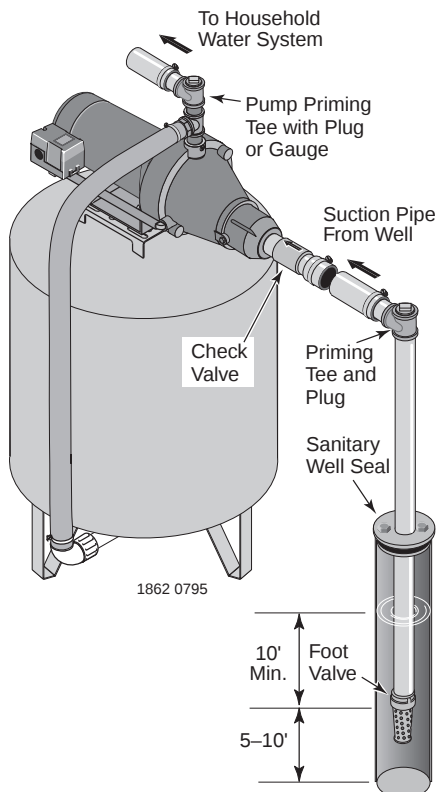

Figure 2: Cased Well Installation
Cased Well Installation, 2" or Larger Casing (Figure 2)
2. Assemble the foot valve, strainer, and well pipe (see Figure 2). Make sure that the foot valve works freely.
4. Install a priming tee, priming plug, and suction pipe to the pump (see Figure 2). Connect the pipe from the well to the pump suction port, using the fewest possible fittings – especially elbows – as fittings increase friction in the pipe (however, include a foot valve – see Figure 2). The suction pipe should be at least as large as the suction port on the pump. Support the pipe so that there are no dips or sags in the pipe, so it doesn't strain the pump body, and so that it slopes slightly upward from the well to the pump (high spots can cause air pockets which can air lock the pump). Seal the suction pipe joints with Teflon™ tape or a Teflon™ based pipe joint compound. Joints must be air- and water-tight. If the suction pipe can suck air, the pump cannot pull water from the well.